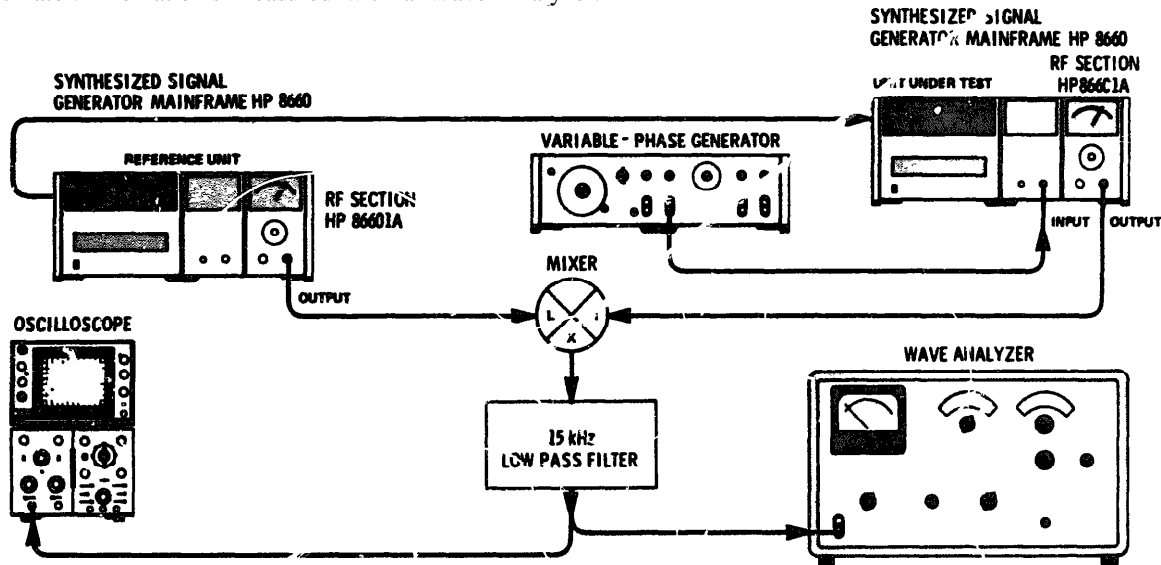

Figure 4-12. Incidental PM Test Setup
1. Connect the equipment as shown in Figure 4-12.